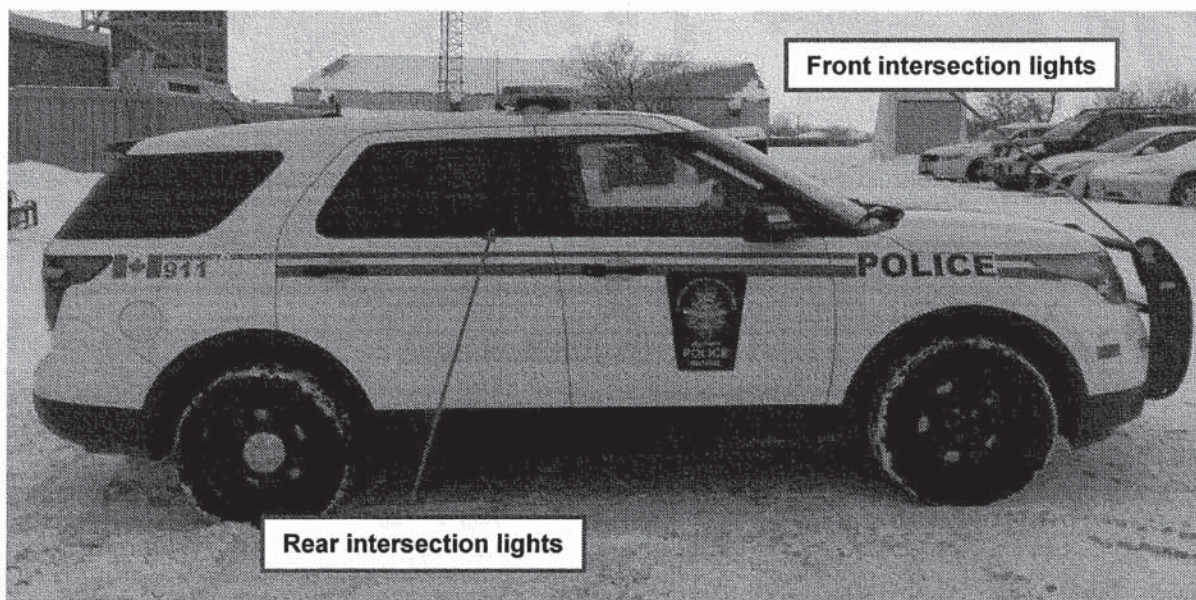

Figure 9 – Ford Police Interceptor Utility - Side view
15. Ford Police Interceptor Utility marked MP vehicle **shall** have in both roof-light-equipped and “slick-top” configurations as illustrated in *Figures 9 to 12* below;